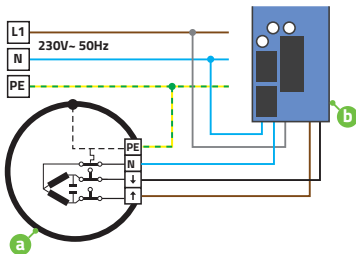

Fig. 7.1
1. Connect the **MOBILUS C-MR IP44** module according to the diagram in - Fig. 7.1.